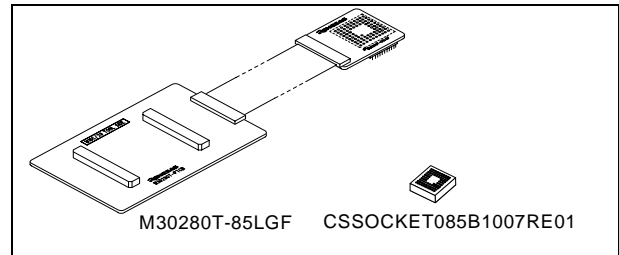

Figure 1 Package components of the M30280T-85LGF
2. Package Components (See Figure 1)